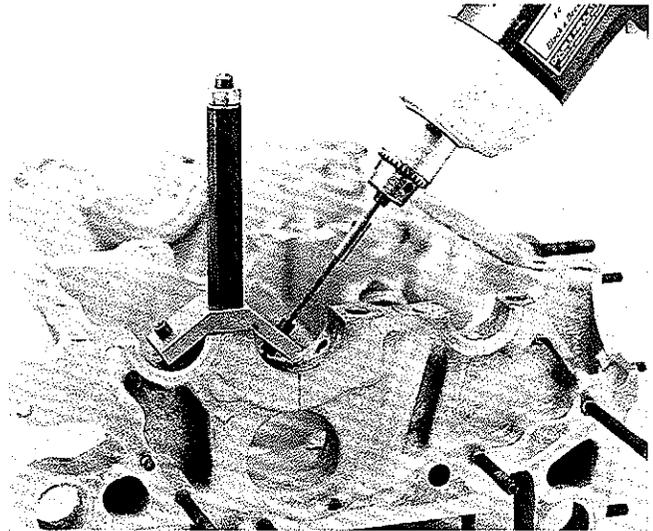

Figure 28. Drill Fixture Installed.
- Install drill fixture over remaining stud at rear crankshaft boss. Align guide points of fixture so they straddle the index pin. (See Figure 28)